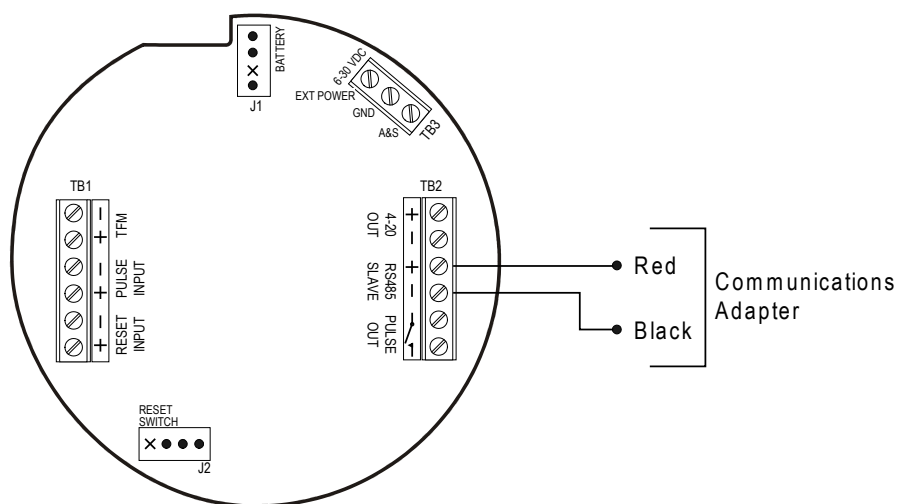

Figure A.6—Circuit board connection for communications adapter
2. Connect the adapter cable to the RS-485 port on the MC-III EXP main circuit board (Figure A.6).